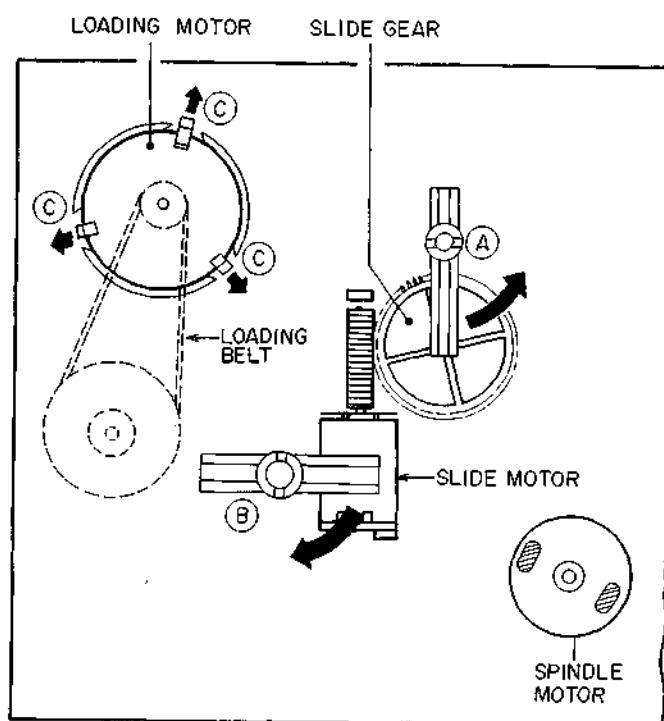

Fig. 6-1
- 2) Extend motor holders ©, at the same time, push the loading motor from pulley side, then remove the loading motor. (Fig. 6-1)
- 2) Pull out the slide motor. (Fig. 6-1)
- 1) Turn the gear hold lever ® counterclockwise. (Fig. 6-1)